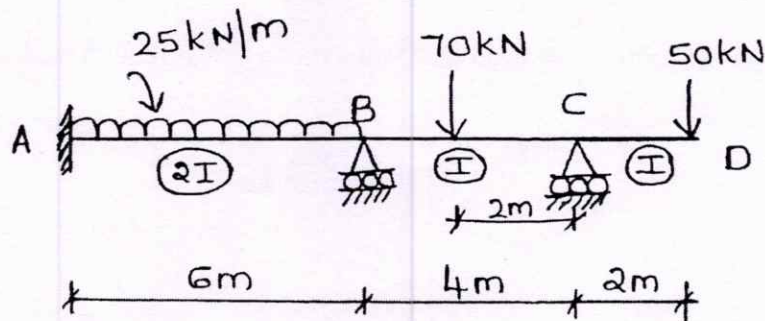

Fig. 2
- 2 a) Analyse the continuous beam shown in Fig. 2 by slope deflection method. Draw (15)